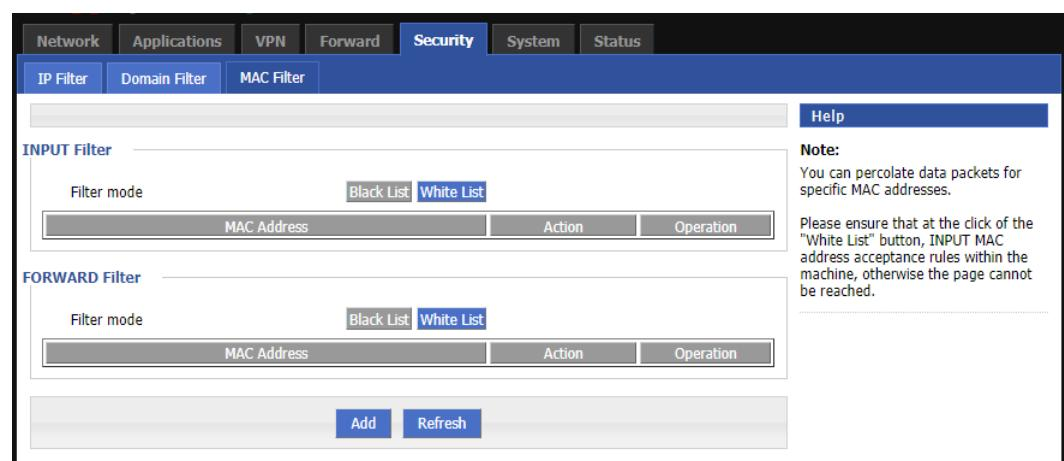

Figure 5-32 Mac filter tab
Step 2 Click Security Settings>MAC Filter to open the MAC Filter tab, as shown in Figure 5-32.